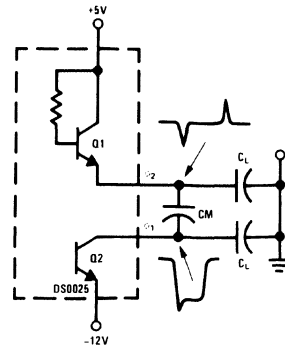

FIGURE 5. Clock Line Cross Talk
**Cross Talk:** Voltage spikes from  $\phi_1$  may be transmitted to  $\phi_2$  (and vice versa) during the transition of  $\phi_1$  to MOS logic "1." The spike is due to mutual capacitance between clock lines and is, in general, aggravated by long clock lines when numerous registers are being driven. Figure 5 illustrates the problem.